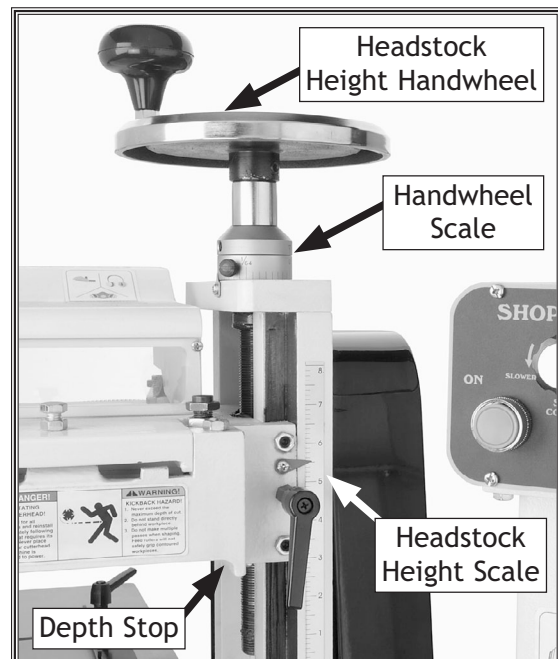

Figure 35. Depth control and scales.
5. Measure the workpiece thickness, loosen the headstock lock lever, and use the handwheel (**Figure 35**) to adjust the headstock for a light pass.